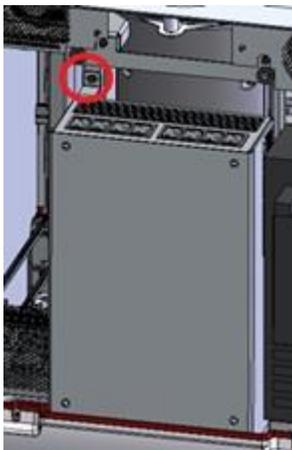
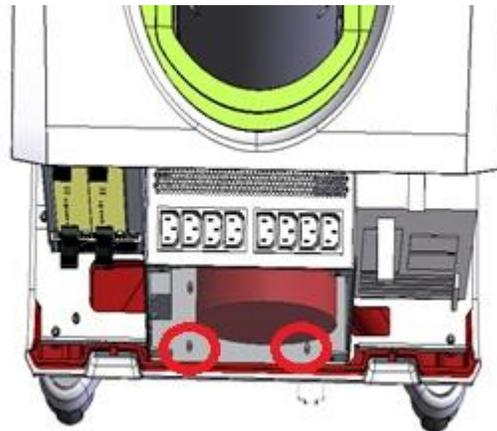

Figure 114: Upper Power Box Screw
Figure 115: Lower Power Box Screws
8. Using a 3 mm hex driver, remove three screws attached to the power box as shown in Figure 114 and Figure 115.
7. Using a 3 mm hex driver, replace one screw at the top of the power box as shown in Figure 114 and two screws at the bottom of the power box as shown in Figure 115 to secure the power box in place in the ExactVu system cart.